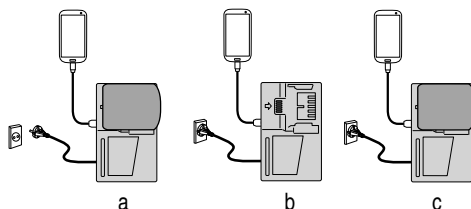

Fig. 11
- Charging a USB device by battery (Fig. 11-a)
- Charging a USB device from a electrical outlet (Fig. 11-b)
- Charging a USB device and battery from a electrical outlet (Fig. 11-c)